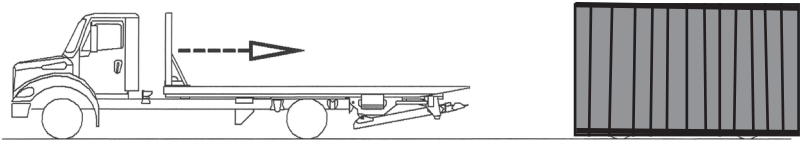

Figure 3.6
- (c) Slide the body rearward 12 inches to clear the body lock. See Figure 3.6